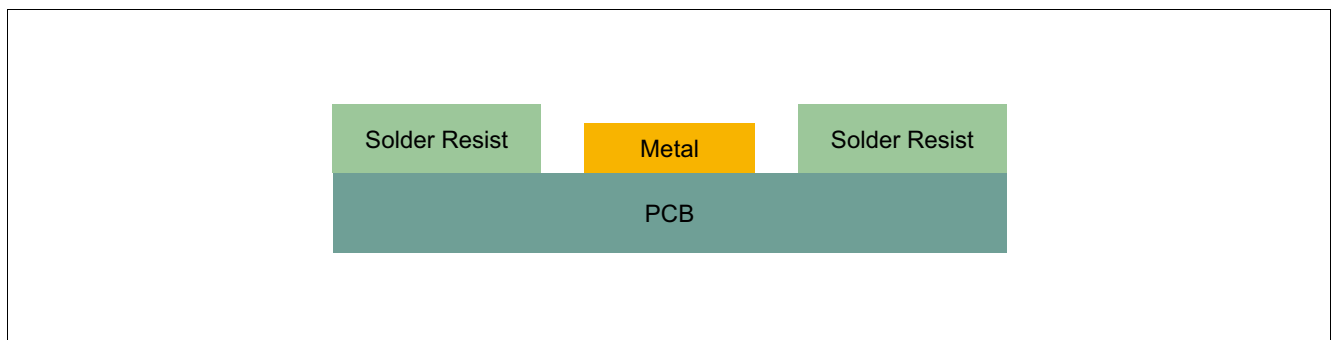

Figure 4 NSMD Pad
- “Non solder mask defined” (NSMD) pad (Figure 4): Around each copper pad there is solder mask clearance. It is necessary to specify the dimensions and tolerances of the solder mask clearance in this way, that no overlapping of the solder pad by solder mask occurs (depending on PCB manufacturers tolerances, 75 μm is a widely used value).